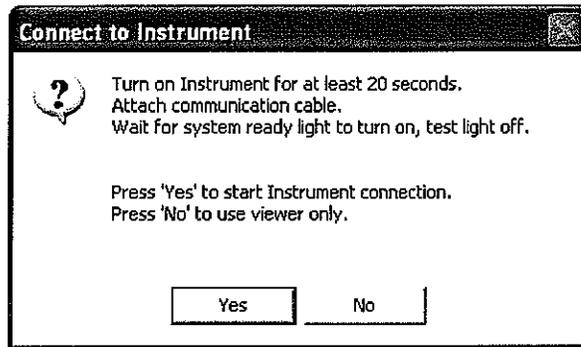

Figure 3.1 Connect to Instrument Dialog Box
4. When the Connect To Instrument dialog box appears (Figure 3.1), connect the M5200 or M5400 to the PC, using either the USB or Ethernet cable.